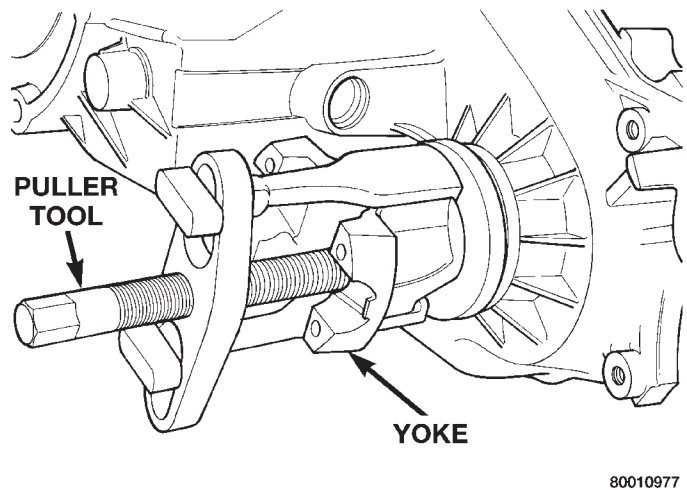
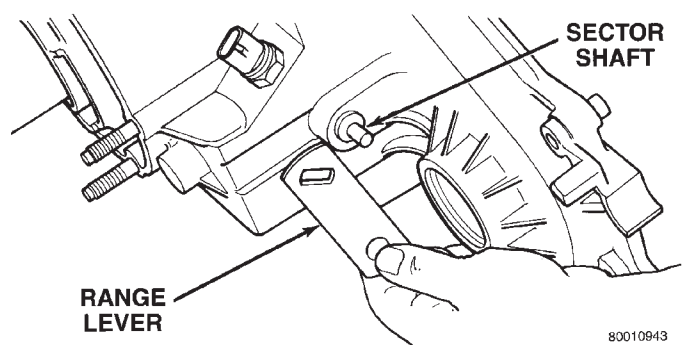

Fig. 17 Yoke Removal
Fig. 18 Range Lever Removal
- (3) Remove yoke. If yoke is difficult to remove by hand, remove it with bearing splitter, or with standard two jaw puller (Fig. 17). Be sure puller tool is positioned on yoke and not on slinger as slinger will be damaged.
- (4) Remove seal washer from front output shaft. Discard washer as it should not be reused.
- (5) Remove nut and washer that attach range lever to sector shaft. Then move sector to neutral position and remove range lever from shaft (Fig. 18).